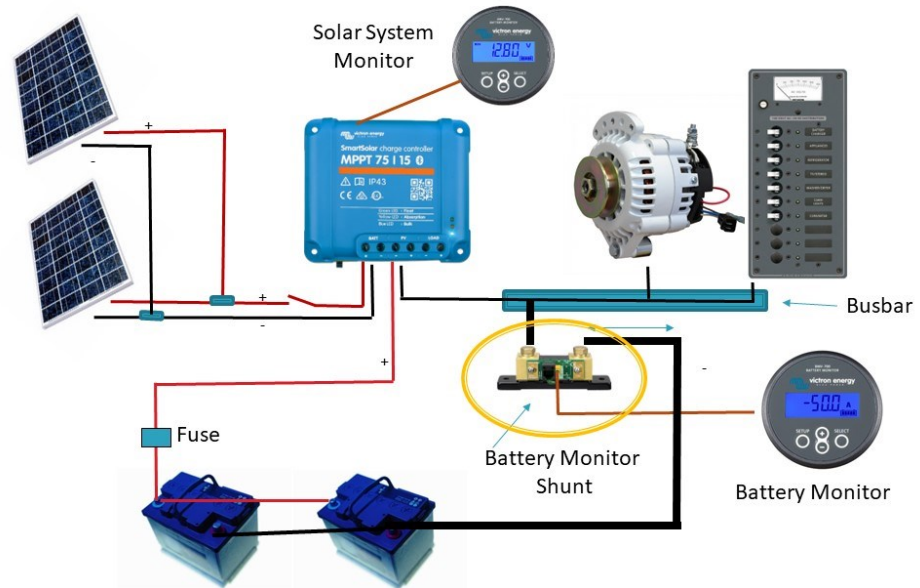

Figure 2
- a. Note: If you have a battery monitor like a Victron 7-12 or Smart Shunt on board, attach the negative wire from the controller to the house side of the battery monitor shunt not to battery bank. See Figure 2 below